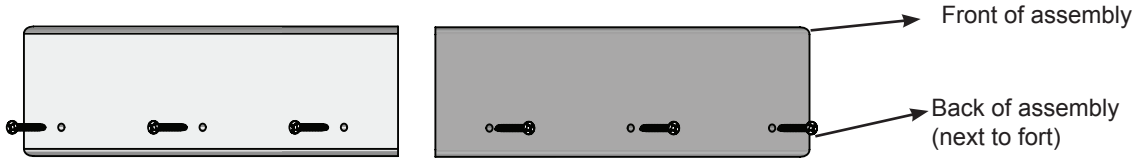

Fig. 19.3
B: Centred above the door on (073) Narrow Front Panel place each Bell Support Assembly so they are tight and form a peak then attach to (073) Narrow Front Panel with 1 (S3) #8 x 2-1/2" Wood Screw and 1 (S11) #8 x 2" Wood Screw per assembly. (fig. 19.3)